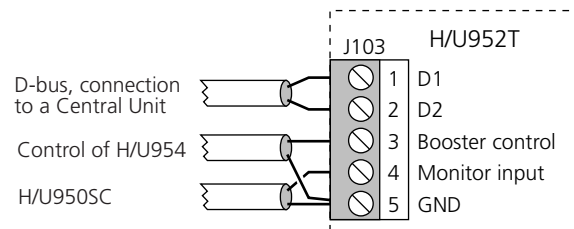

Figure 9. Connection via twisted-pairs.
- Connect control of H/U954 Power Amplifier* to J103 screw 3 and 5, **and** H/U950SC Output Power Surveillance Module* to J103 screw 4 and 5, see figure 9 above.